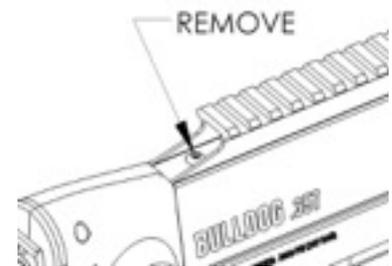

Fig. 1
2. Using a 3/32" Allen wrench, remove the screw from the rear of the Barrel Shroud. (Fig. 1)